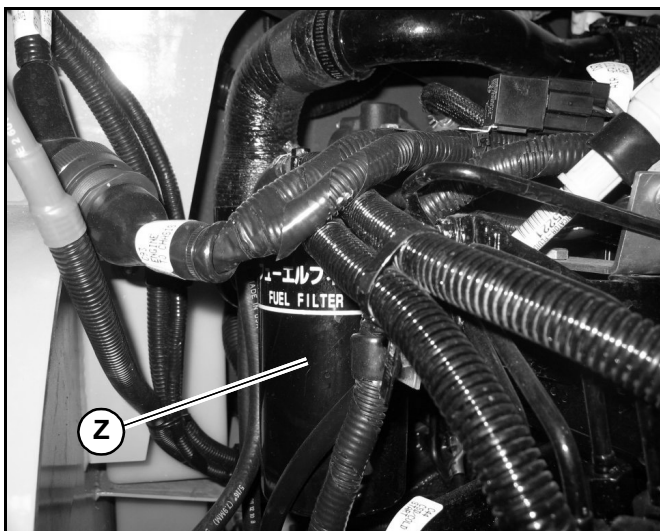

Fig. 97 – Engine Fuel Filter
5. Remove the fuel filter (Z, Fig. 97), using a filter wrench if necessary. Carefully clean the filter head mounting surface with a clean cloth.